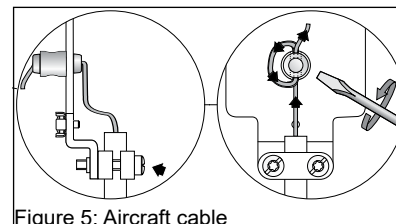

Figure 5: Aircraft cable
6. Feed aircraft cable back through safety catch making sure to complete one full loop and tighten locking screw. [Figure 5]